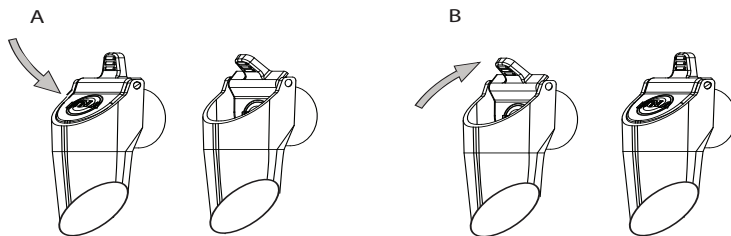

Figure 3-1
2. Close the container outlet by pushing the valve until it clicks shut, (see figure 3-1) (A).
8. Open the container outlet by pushing the tab until it clicks open, (see figure 3-1) (B).